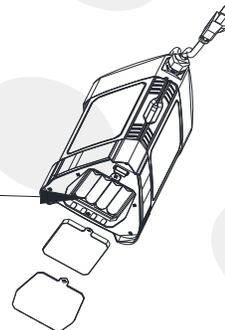

figure 3
**Step 3:** Install Four AA rechargeable batteries, see Figure 3.